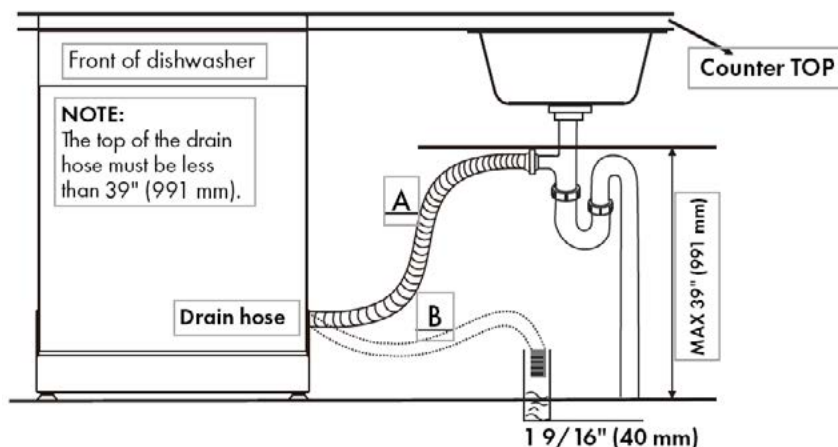

Figure 14
3. If there is no air gap, make sure to hang the middle of the drain hose well above the sink cabinet base to prevent backflow (see Figure 14, letter A, on the next page).
5. Also use care not to damage the drain hose (Figure 14, letter B) when installing the dishwasher on the floor, wall, or cabinet.